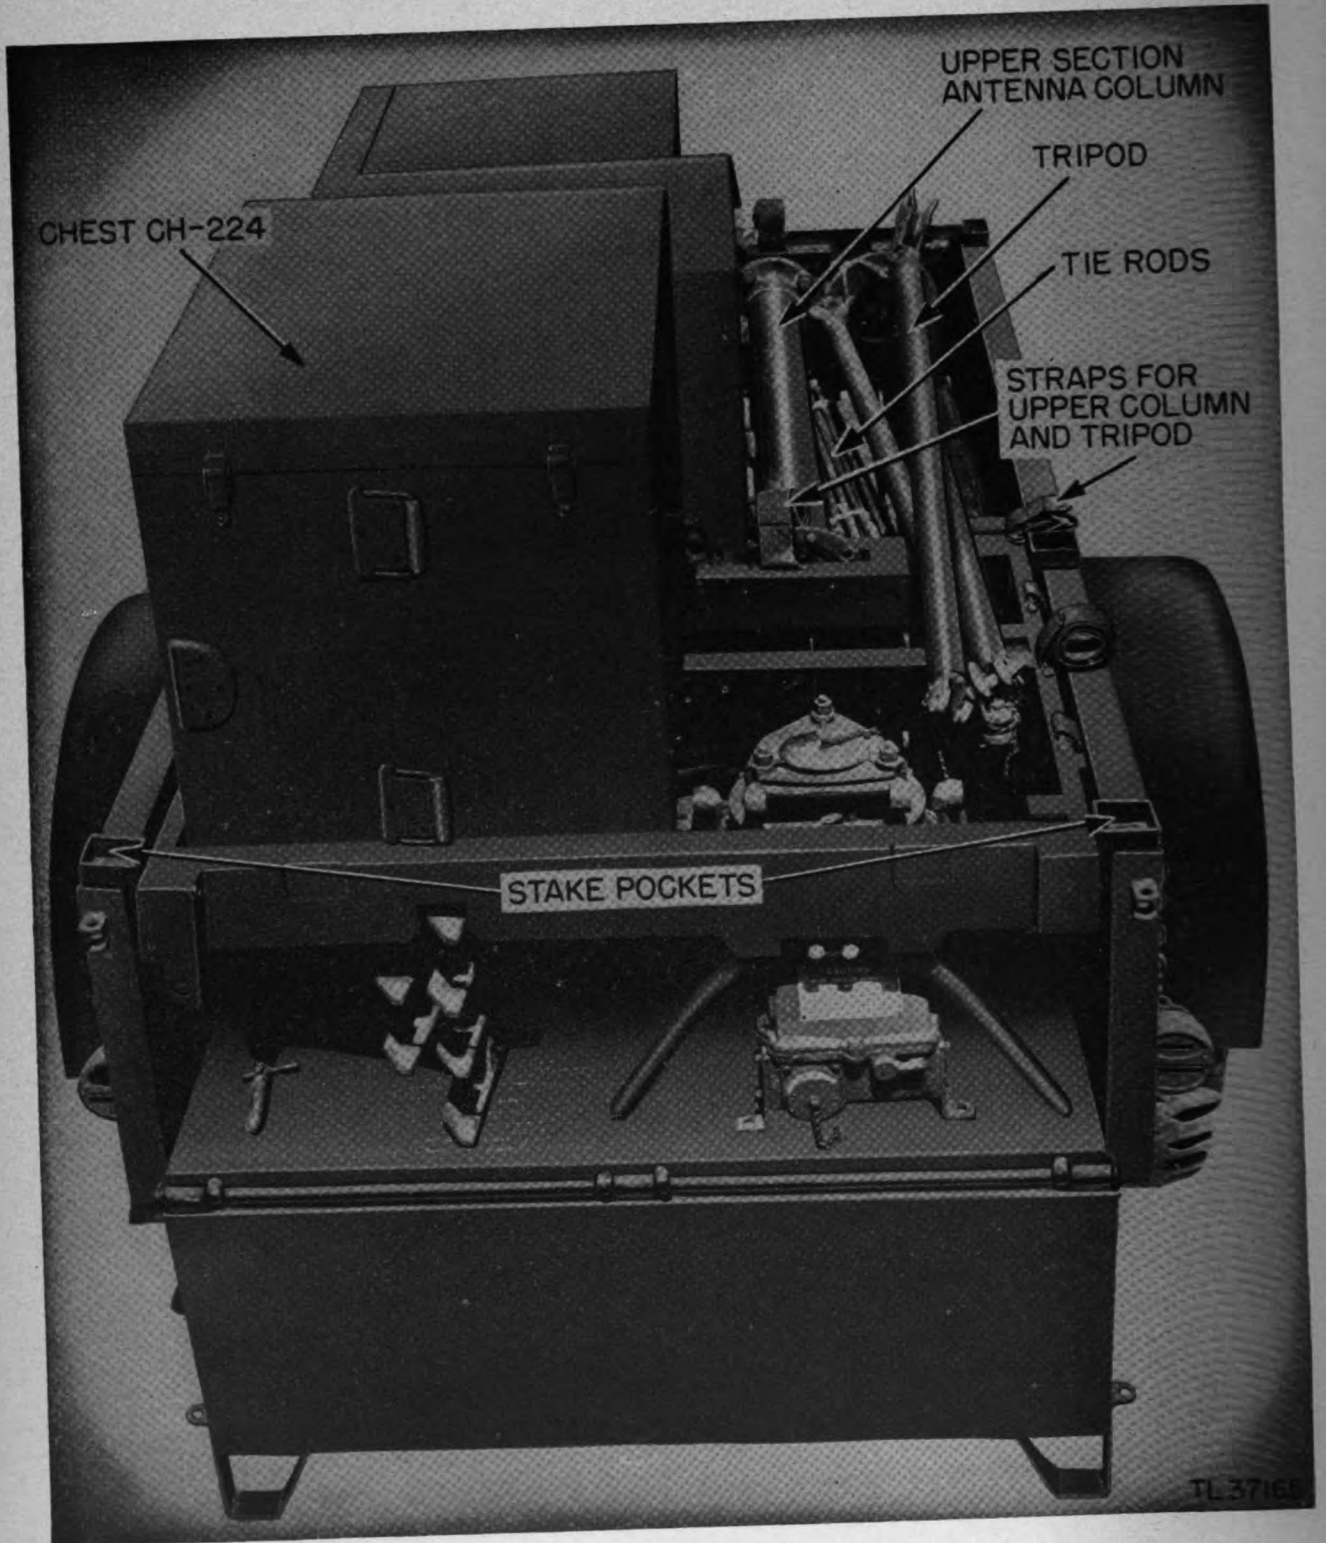

Figure 120. Chest CH-224 in place.
m. Set Chest CH-224 over the inner legs in the cut-out portion of block B and on the supporting shoulders attached to blocks A and F (fig. 120).
mounting the small flanged end of the upper antenna column on the small collar attached to block C. Drop the other end of the column having the larger flange into the slot provided on block F. (fig. 120).
o. Install the tripod next. Fold the tripod legs, open the split flanged collar at the upper end of tripod, and mount the tripod over the collar attached to block C. Close the flange collar and secure with the bolt and nut (fig. 120). Fasten the other end of the tripod with the short webbed straps attached to blocks E and F. These same straps pass over the flange of the upper section of the antenna column and hold it in place.
p. Tie the three steel tie-rods together with light rope and place them on the extension legs between the tripod and the upper section of the antenna column (fig. 120). Two of these rods are linked together, while the third rod has a turnbuckle. When disassembled, one section is separated. They are used with the tower legs.